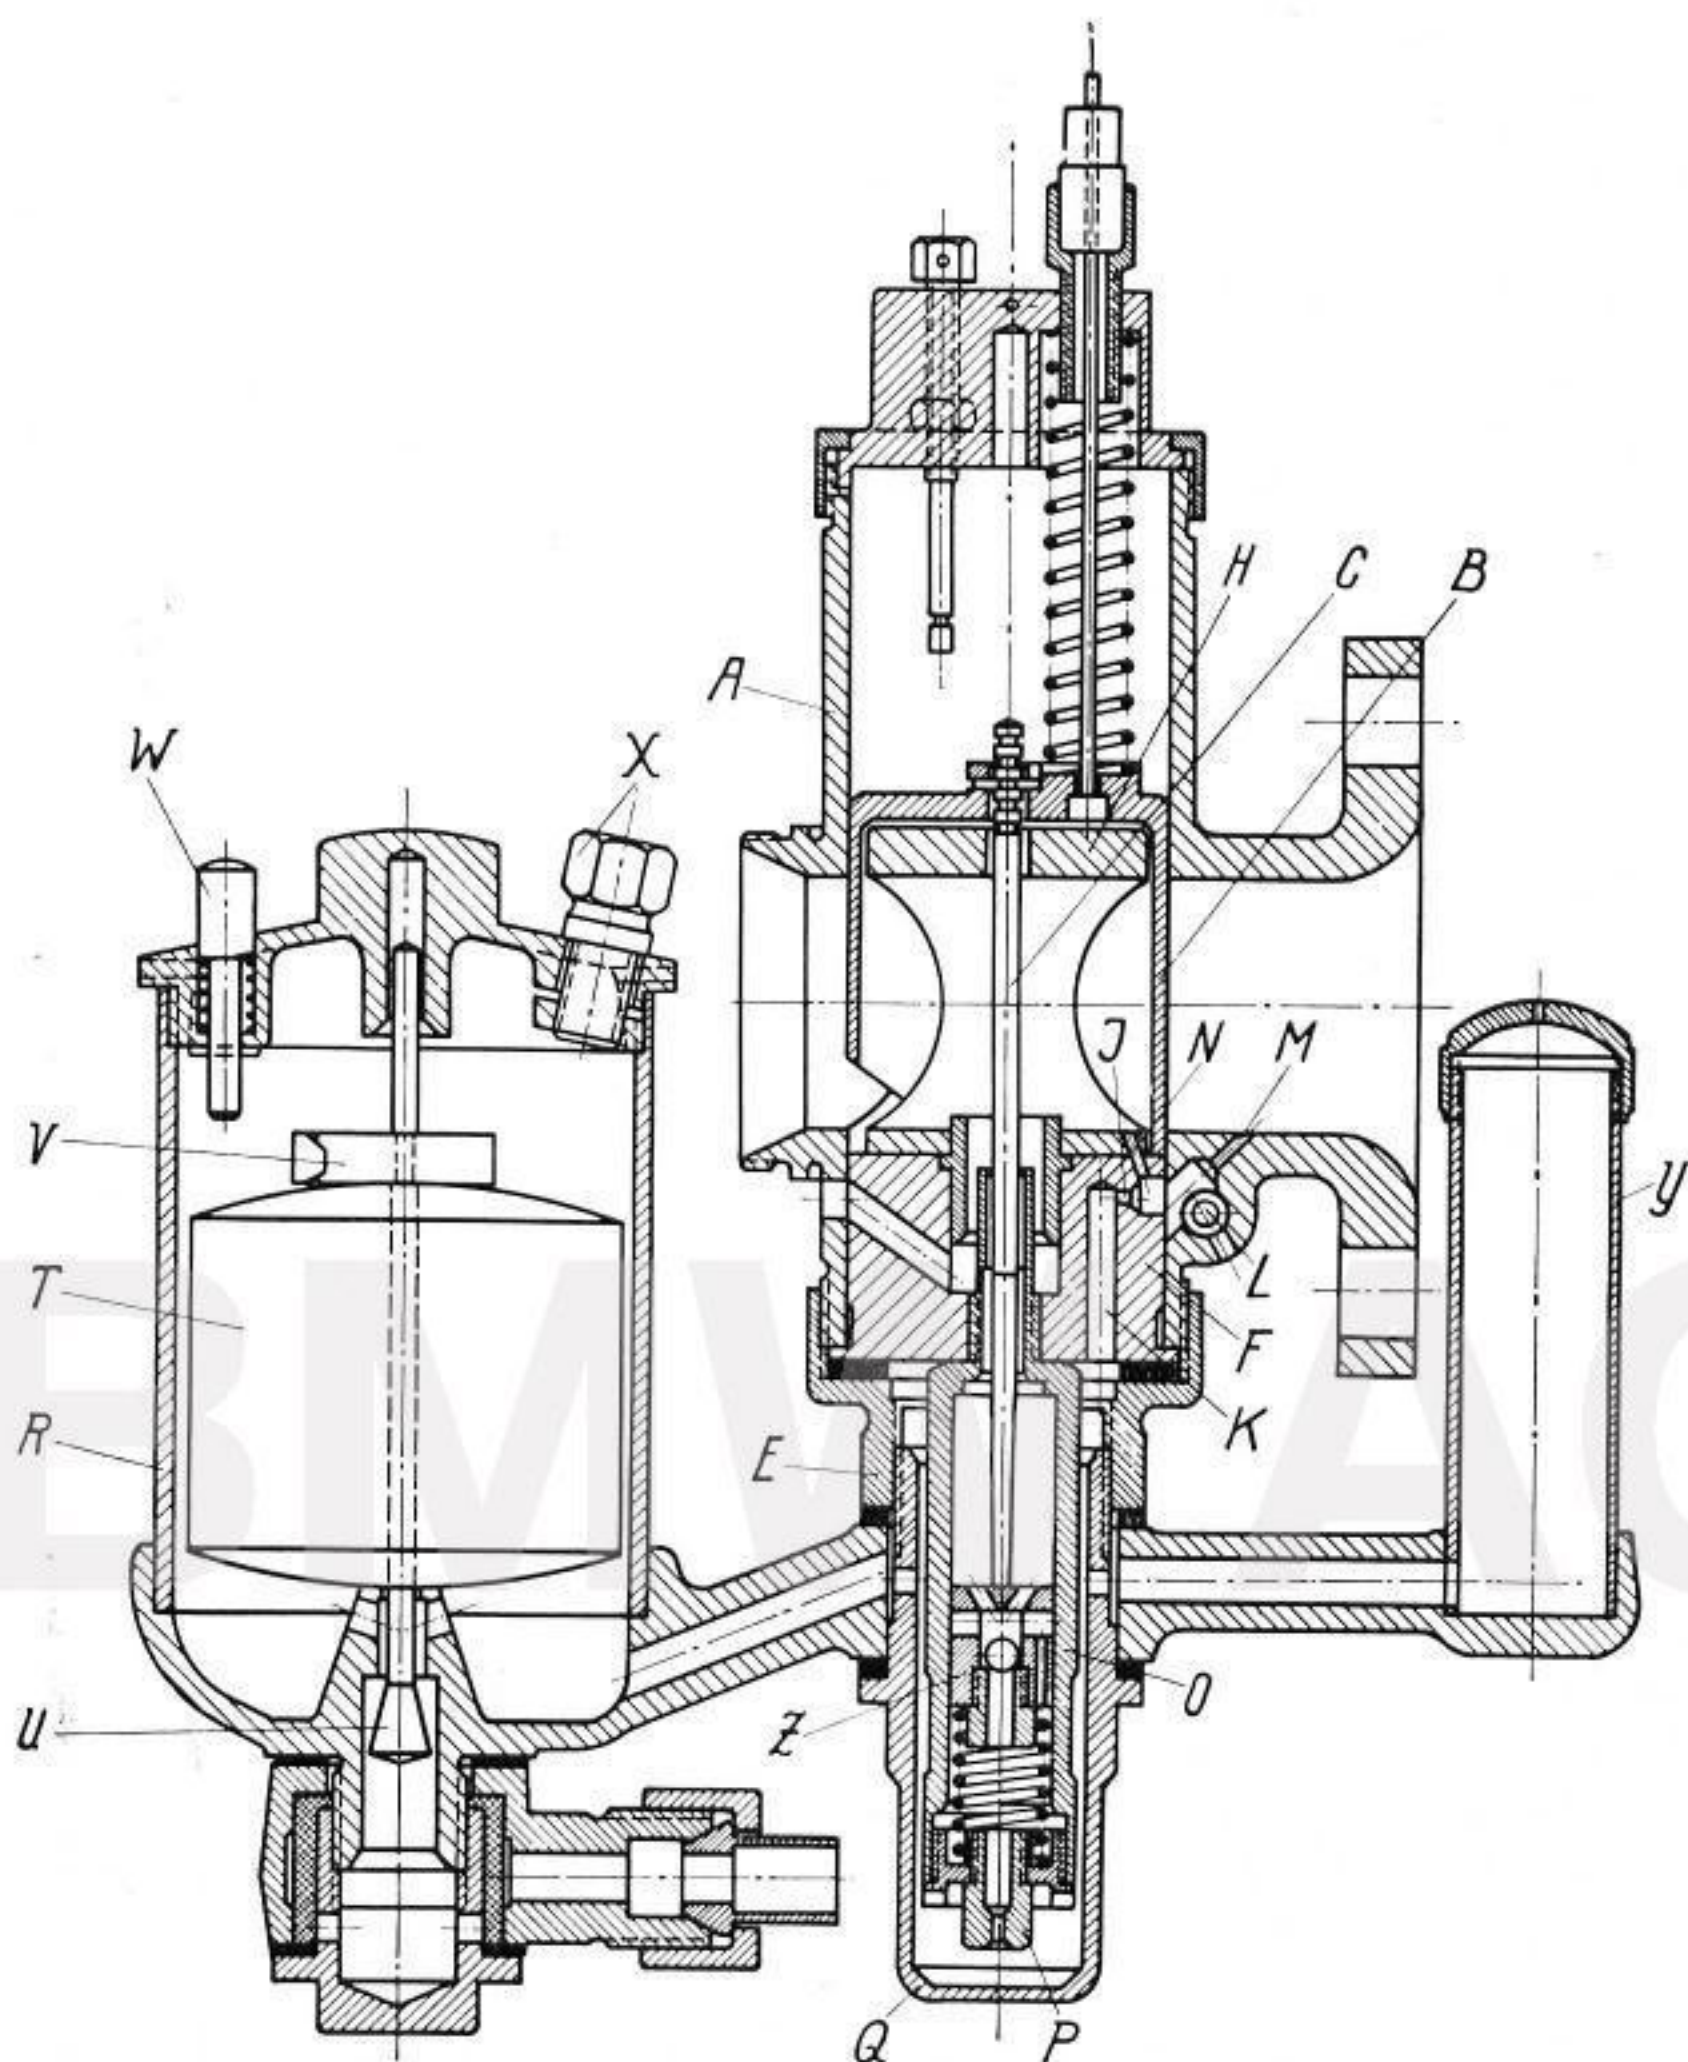

Fig. 15 Carburetter of the two-carburetter touring machine
c) Float chamber: The float chamber must be cleaned with petrol after about every 2000 — 2500 miles. At the same time the needle valve should be checked. For this purpose the cover of the floatchamber must be taken off. With the carburetters of the **R 12 two-carburetter machine** the clamping screw X (fig. 15) must be unscrewed first to be able to screw off the cover. Then the clamp spring V on the carburetter valve needle U
must be removed whereupon after removal of the connecting piece of the petrol piping at the bottom, the float chamber may be taken out downwards. (Fig. 15.)
b) R 12 two-carburetter machine. For the R 12 two carburetter touring machine two Amal single slide valve pump carburetters are employed the inner structure of which is shown by fig. 15.
With the carburetters of the **R 12 and R 17 two-carburetter machine** a tickler **W is arranged** in the cover of the float chamber which on pressing down keeps the float valve U open and thus shows whether there is a proper flow. When kickstarting the engine, more fuel is supplied to the jets by operating the tickler W which considerably facilitates starting (fig. 15 and 16). Regarding the maintenance of the carburetters see page 20.